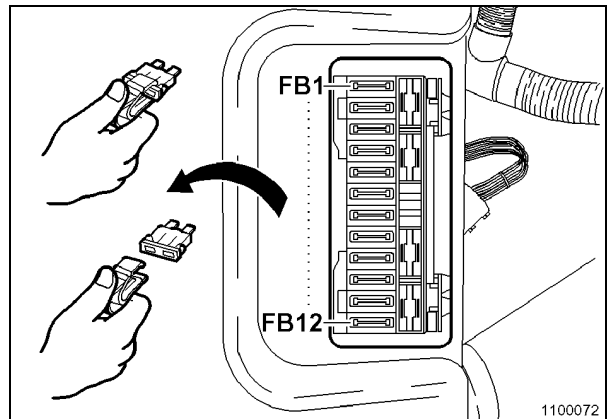

Fig. 2
- Remove the transparent cover of the fuse-box by unsnapping the clips on both sides. The fuses are now accessible (Fig. 2). Fuse assignment and rating see: "Table of fuses".
- Withdraw the fuse from the holder. For this purpose, the fuse-box contains a special fuse removal tool. (Fig. 2).